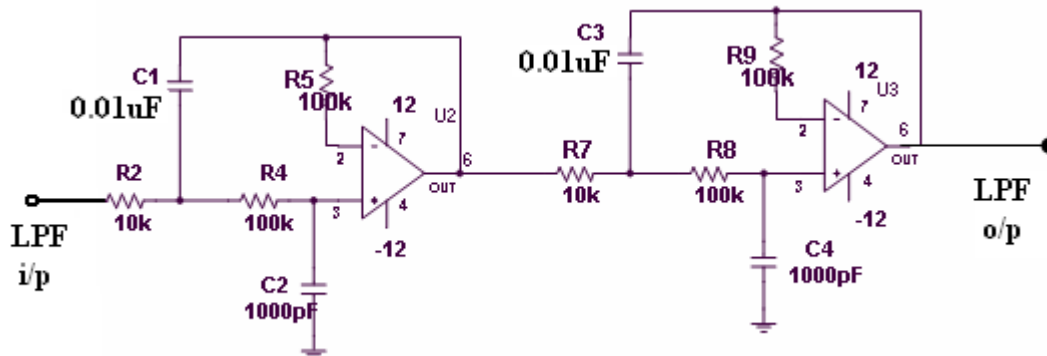

Fig.7. two stage Active Low Pass Filter
From the active filter circuit shown in fig.7:
3. Calculate the cut off frequency (theoretically) for the LPF circuit in fig.7 then compare it with practical result.